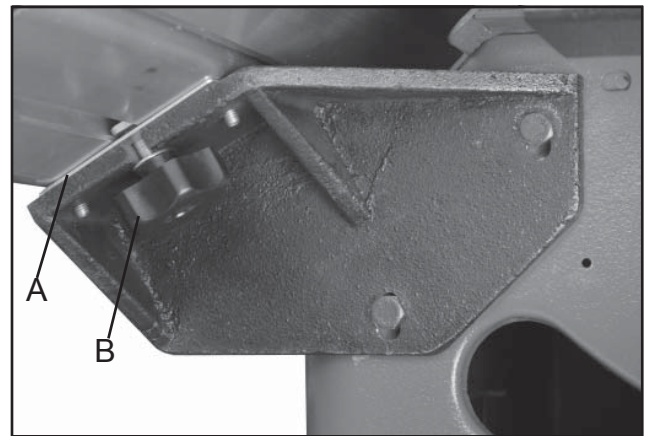

Figure 18
1. Loosen the two sliding table lock knobs slightly. (B, Fig. 18)
2. Adjust the set screws accordingly which will place pressure against the pressure plate (A, Fig. 18)